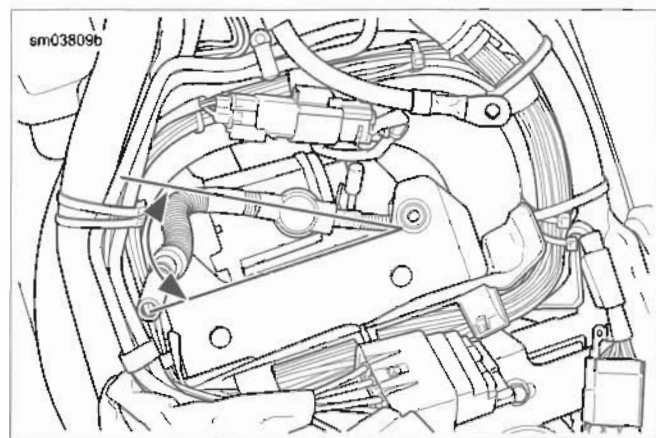

Figure 7-22. Positive Battery Cable Routing
1. See Figure 7-22. Position positive battery cable properly at starter. Cable end must face 35 degrees +/-10 degrees forward from left side of vehicle.